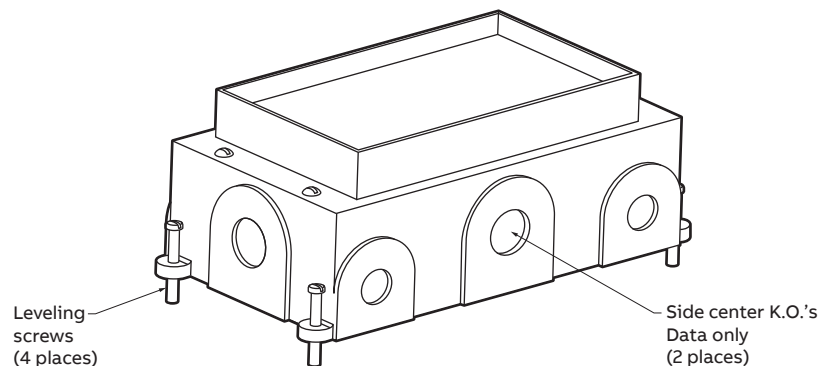

Figure 1
1. Install leveling screws supplied and place box on firm support. (Figure 1).